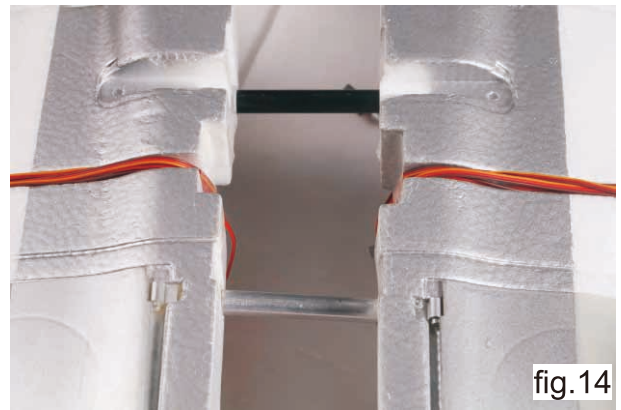

fig.14
- 13) Insert the connecting tubes into the other wing half. Slide the wing halves together. Make sure the wing halves come together completely. If not, you must find and remove the obstruction (fig. 14).